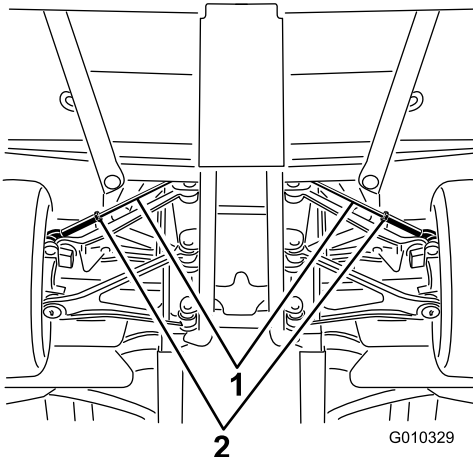

Figure 48
- A. Loosen the jam nut at the center of the tie rod (Figure 48).